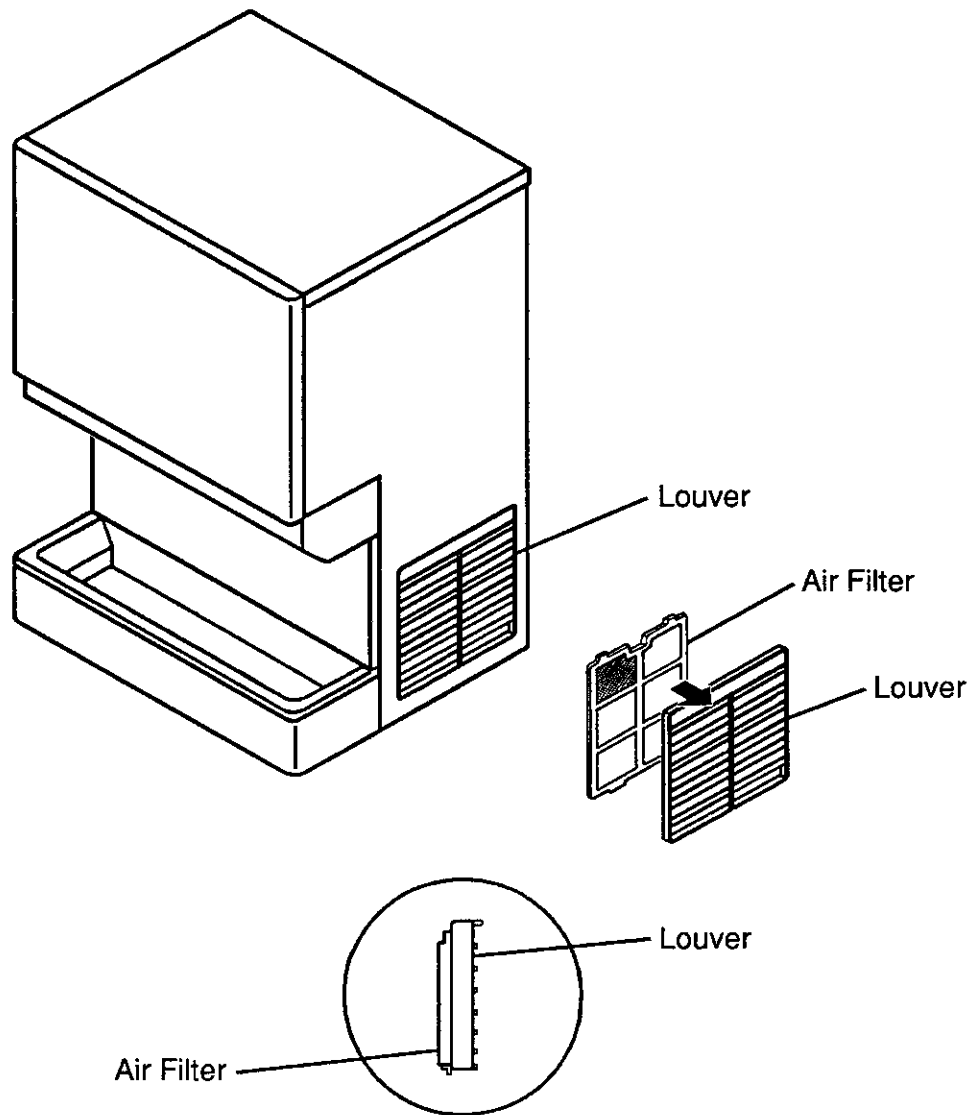

Fig. 11
3) Air Filter (Air-cooled model only) - See Fig. 11